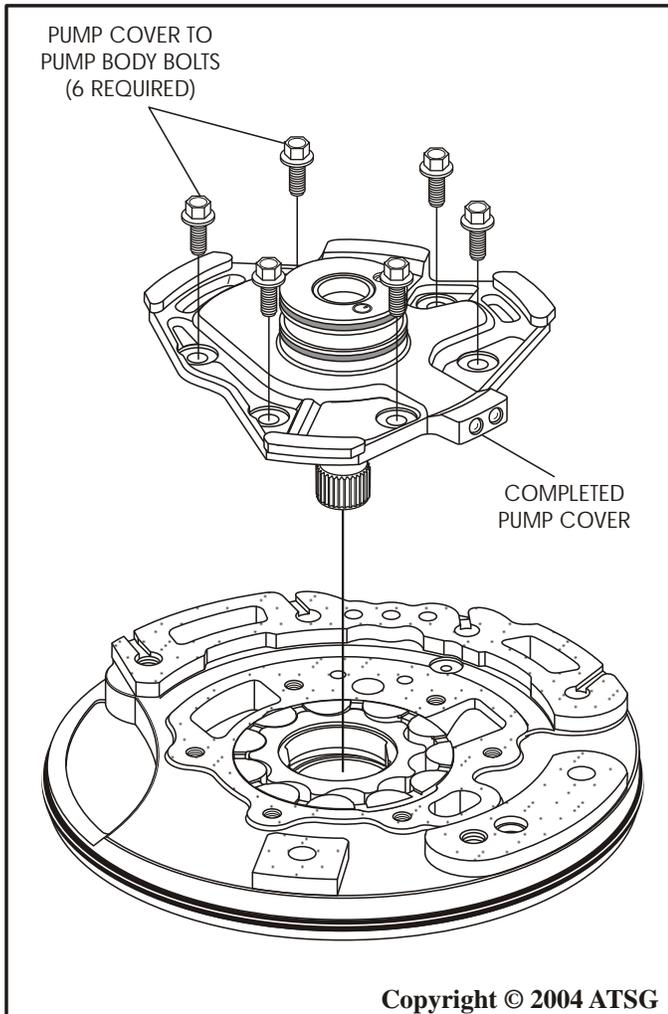

Figure 61
17. Install the completed pump stator into pump body, as shown in Figure 61, and install the six retaining bolts.